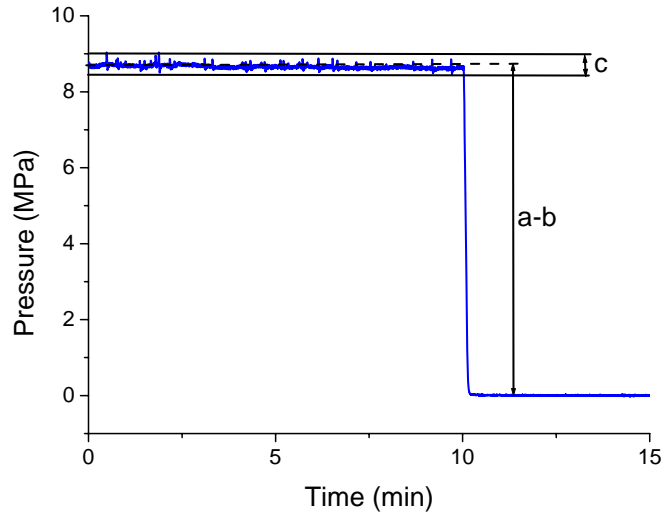

Fig 2. Calculation of pressure pulsations %P.
6. Start run in Alexys. Subsequently a run will start of 15 minutes. The first 10 minutes the pressure signal is monitored at a flow rate 1 mL/min. After 10 minutes the flow is stopped automatically. The program will continue measuring for 5 minutes in order to determine the pressure at 0 mL/min. A typical pressure profile obtained with such test is shown in figure 2.
9. Calculate the residual pressure pulsations in the following way (see figure 2):